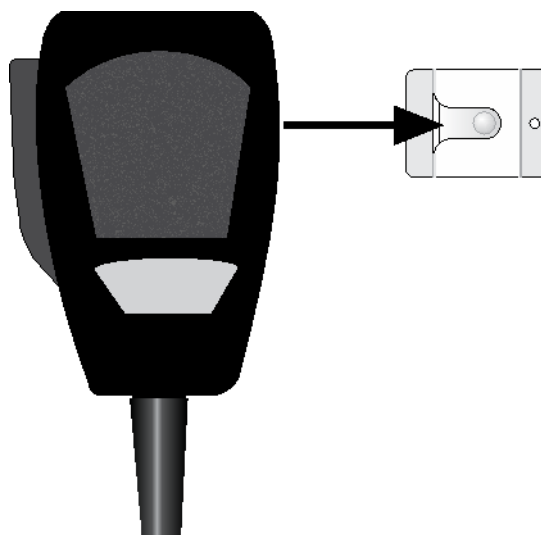

Figure 4-8 Sliding Microphone into Microphone Clip
1. Clip the microphone into the micro phone clip. See Figure 4-8.